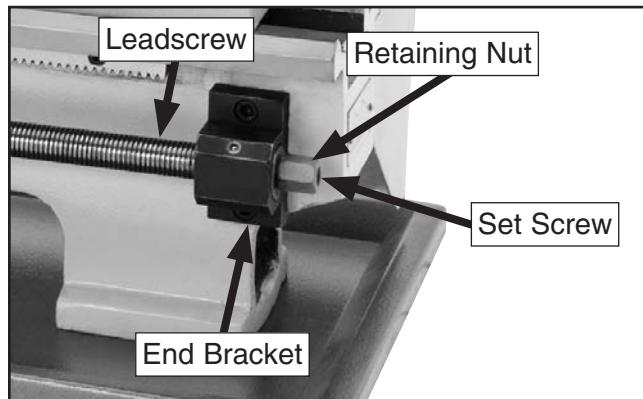

Figure 144. Leadscrew end play adjustments.
2. Loosen set screw shown in **Figure 144** several turns.